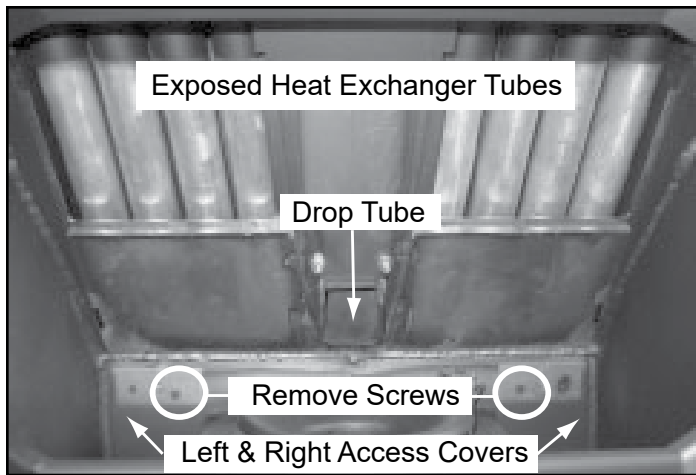

Figure 22.1 - Baffles Removed
- a. Use a Shop Vac to vacuum any fly ash and soot from the heat exchanger tubes and firebox area (**Figure 22.1**).
- a. There are 2 exhaust exits at the back of the firebox on the left and right side (**Figure 22.1**).